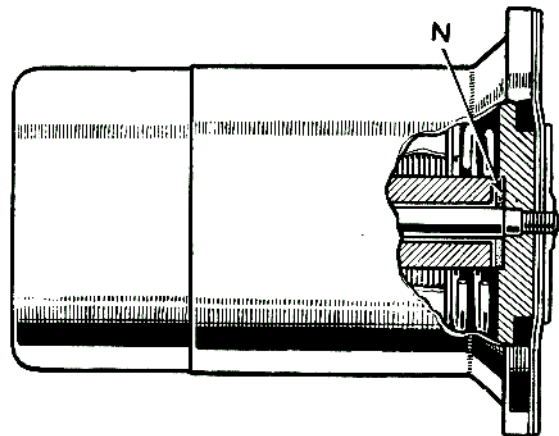

Fig. M-16—Armature impact washer
3. If necessary, remove the impact washer (Fig. M-16) from the recess of the armature.